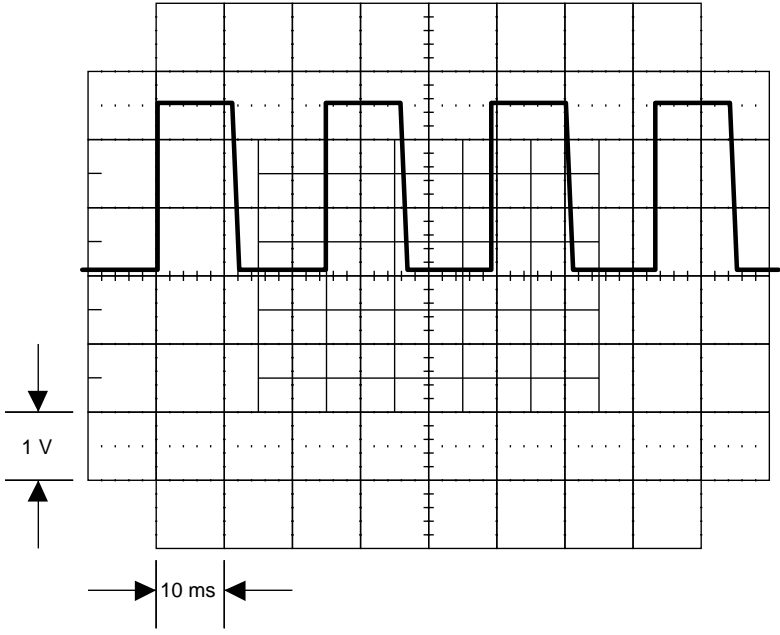

Figure 5-23. Waveform at Pin 6 of U13
4. Check CH1 FLOATING. Connect an oscilloscope to U13 pin 6 (common to TP1). Set the 5700A to 6.5V dc, operate, and the oscilloscope to 2V/div at 2 ms/div. The oscilloscope should display a TTL level signal similar to Figure 5-23. If a failure is detected, check U13 and its associated components.